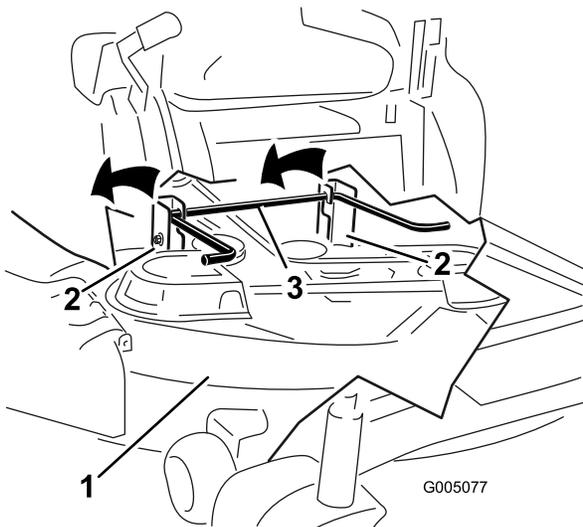

Figure 59
- Lift the rear of the mower deck and guide the hanger brackets over the rear lift rod (Figure 59).
- Lift the mower deck and hanger brackets clear of the rear lift rod and lower the mower carefully to the ground (Figure 59).